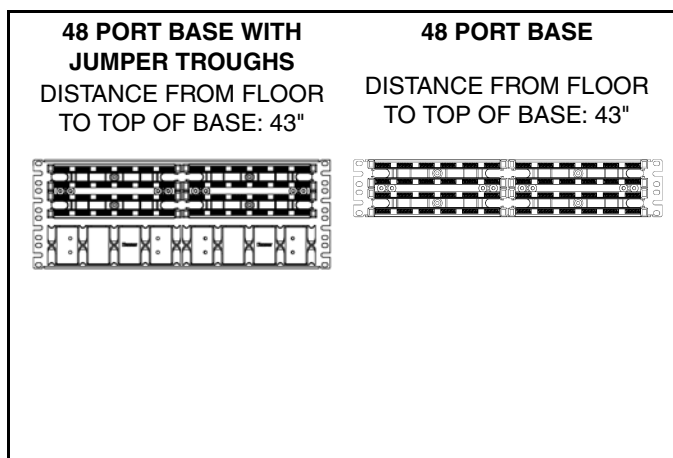

Fig. 1
1. Use appropriate mounting hardware to install base on desired surface as shown in Fig. 1, 3/4" plywood is recommended. (Tip: Panduit lettering should be upright.)